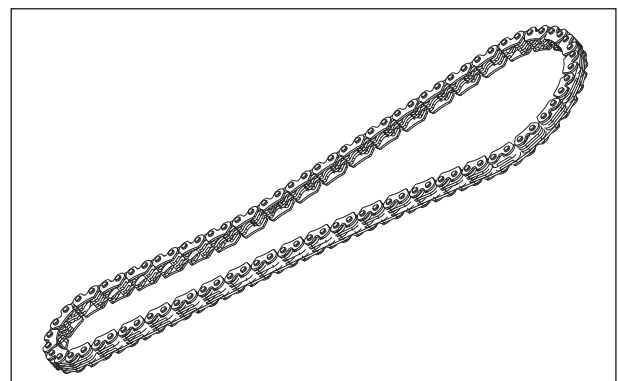

Fig. 3.70
- Visually inspect the cam chain for loose pins, twist / seized links etc. If found any replace the cam chain with a new one. (Fig. 3.70)